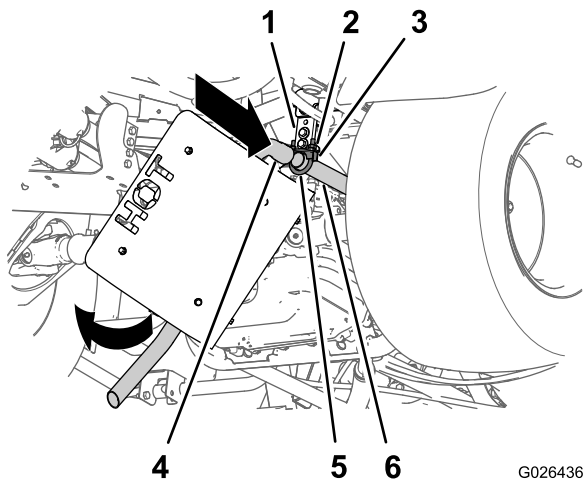
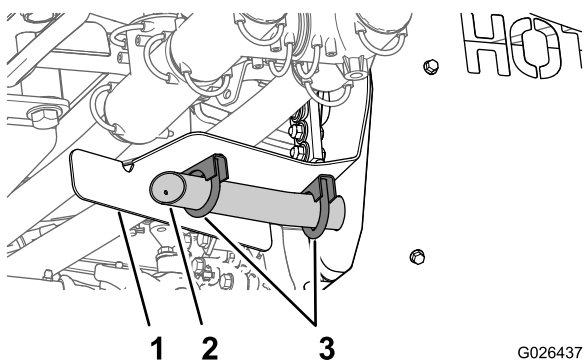

Figure 13
Figure 14
1. Align the inlet pipe of the muffler to the open end of the exhaust pipe (Figure 13).
3. Rotate the muffler up until the tail pipe of the muffler is aligned to the tail-pipe bracket (Figure 13 and Figure 14).
4. Attach the tail pipe to the tail-pipe bracket with 2 muffler clamps (1-1/4 inch) as shown in Figure 14.
5. Torque the nuts for the muffler clamps at the exhaust pipe and muffler-inlet pipe (Figure 13), the tailpipe and tail-pipe bracket (Figure 14), and the muffler bracket